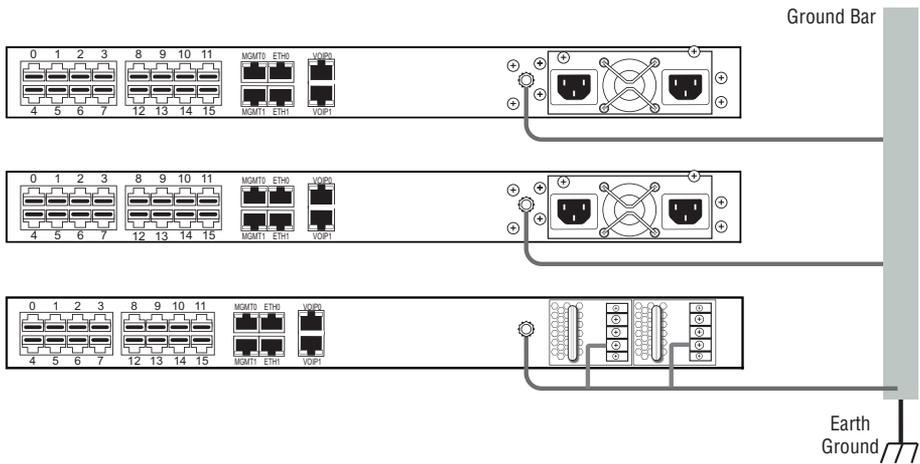

Figure 4. Chassis ground connection
- **Do NOT** daisy chain the ground between equipment. Use a ground bus bar, as shown in **figure 4**.
1. Connect one end of a ground wire to the ground lug of the SN10100 series gateway. See **figure 4**.